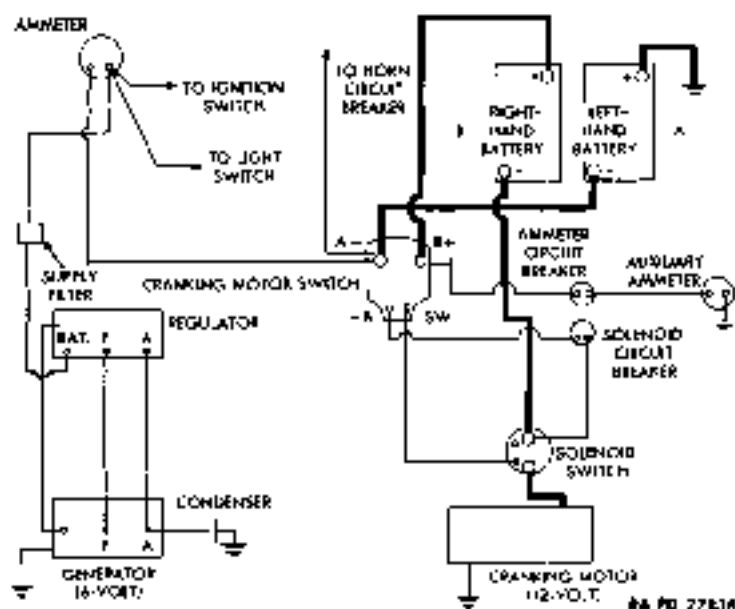

Figure 47 — Wiring Diagram of Starting and Generating Systems
86. DESCRIPTION (fig. 47).
(2) **DISCONNECT WIRES** (fig. 47). Disconnect the three wires and one hand strap from top of generator. Tag wires to facilitate installation.
(3) **CONNECT WIRES** (fig. 47). Connect red wire from harness and condenser lead on armature terminal. Connect yellow wire from harness on field terminal. Connect condenser, black wire from harness, and bond strap from frame on ground screw.